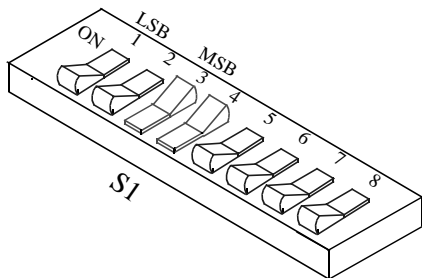

Figure 1-12 RDM S1 AUDIO GATE ENABLE
3. **On the RDM**, set S1 sections 1-3 as shown in Figure 1-12 and reset the RDM. This disables the FSK gate and enables the Audio gate. (See Figure 2-8.)